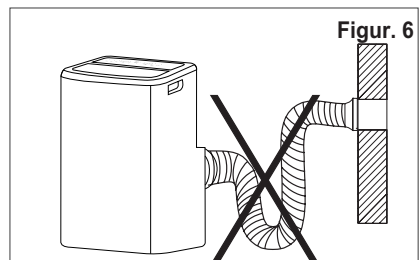

Figur 4
3. Installer adapter A i enheten (figur 4).